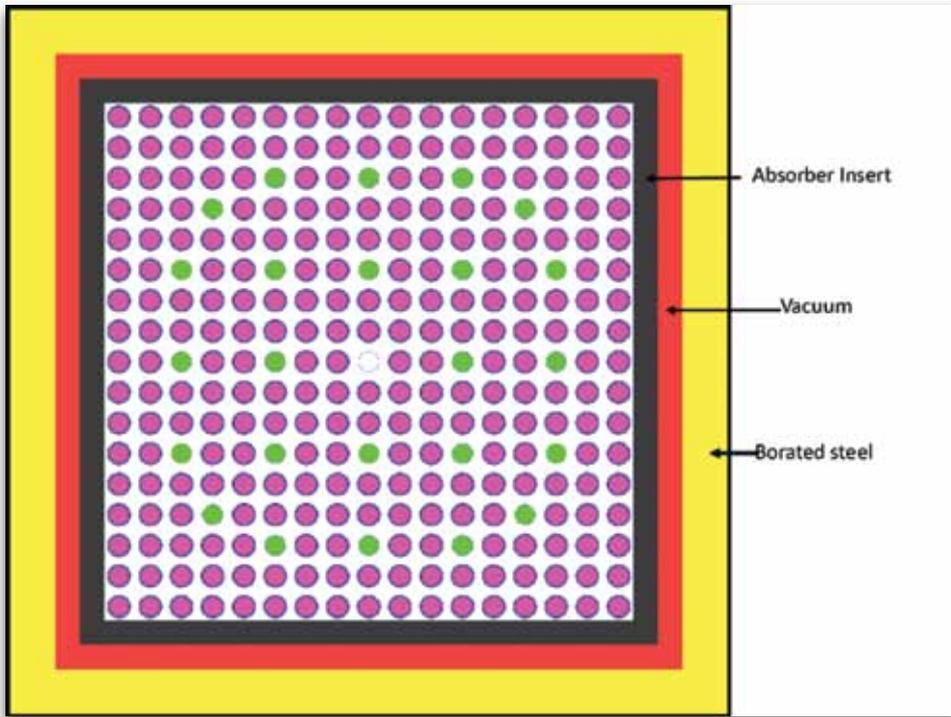

Fig. 2: Neutron absorber insert inside the fuel assembly flask
- Case 2: In this case, the inner region, which is the region closest to the fuel assembly, was replaced with the composition of the absorber insert as indicated in Figure 2. In the outer region, the borated steel composition was kept the same and the two regions were separated by a vacuum layer.
- the lowest decrease in k_{eff} (with the decrease ranging between 7.3231% and 8.4434%) was obtained when the neutron absorber was placed in the innermost region of the basket with the air gap surrounding it and then the borated steel on the outside (see Figure 2).